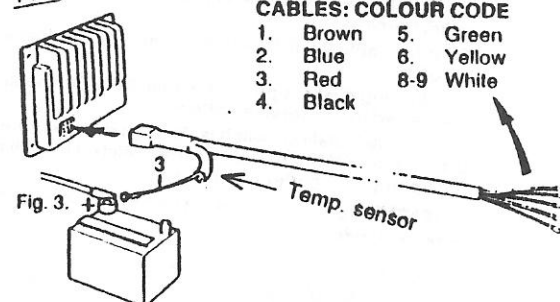

Fig. 3.
- O. Connect cable 3 (RED) to the battery (+) terminal, as shown in fig. 3. If a blocking diode is present, cable 3 (RED) should be connected to the service battery. If a manual isolating switch is fitted, instead, connect the RED lead to the COMMON pole on the switch. This will ensure that the appropriate battery is sensed.